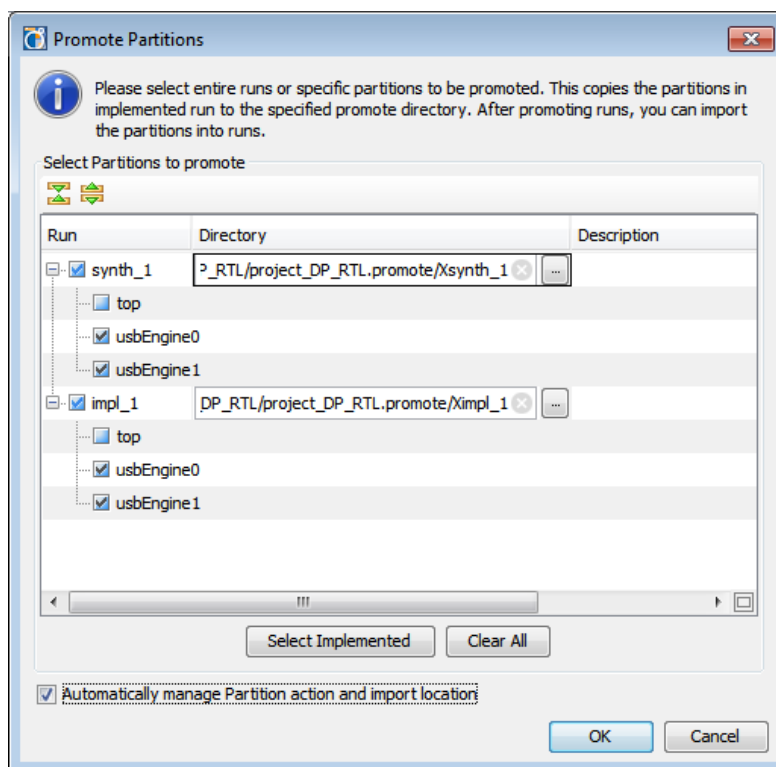

Figure 11: Promote Partitions Dialog Box
- Verify that the two **usbEngine** module instances are checked for promoting for both synthesis and implementation, as shown in Figure 11.